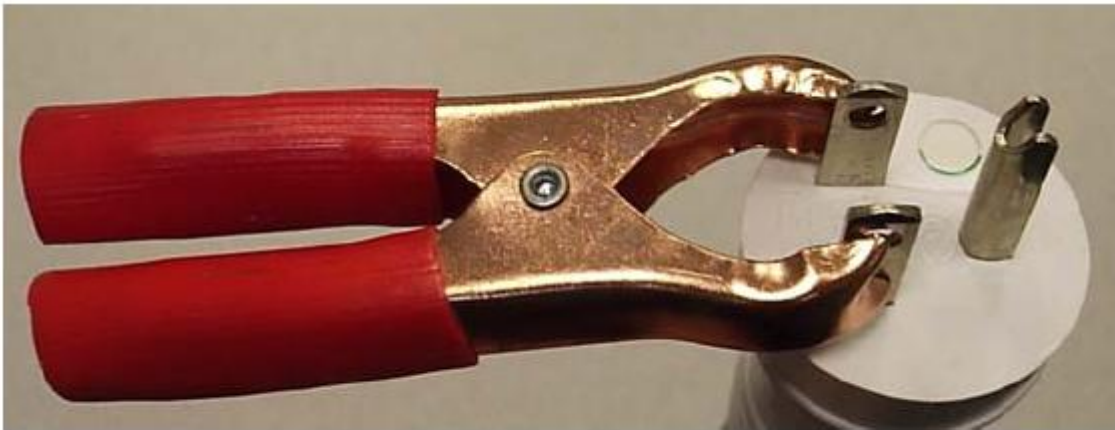

Figure 1 - Attach the Metal Clamp to the Live and Neutral Terminals
4. **Attach** metal clamp to the live and neutral terminals of the Power Cord. (see figure 1)